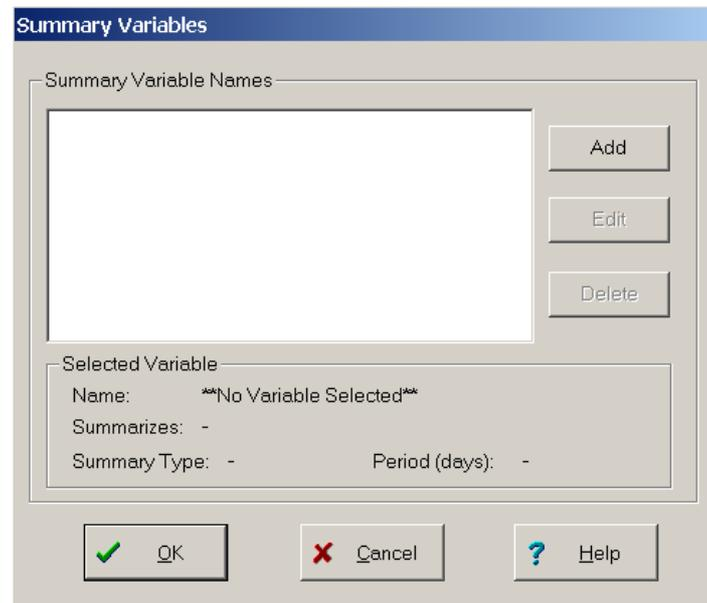

Figure 14.1 Summary Variables list Window
2. Select ‘**Model**’ from the menu bar followed by ‘**Summary Variables...**’ to obtain the Summary Variables list window (figure 14.1)